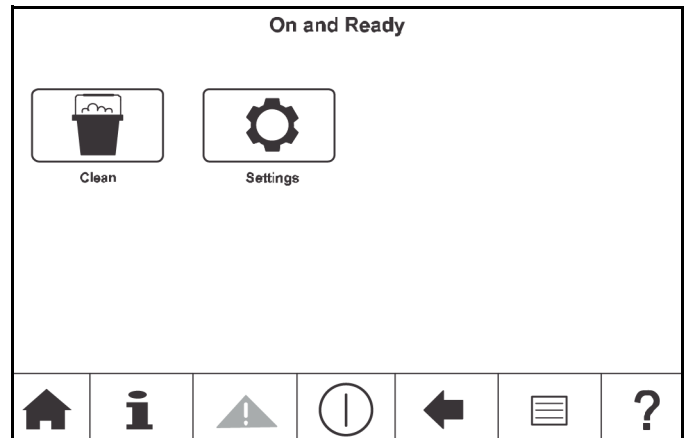

Figure 6-4
3. Select the Full Clean mode from the Clean menu. See Figure 6-4